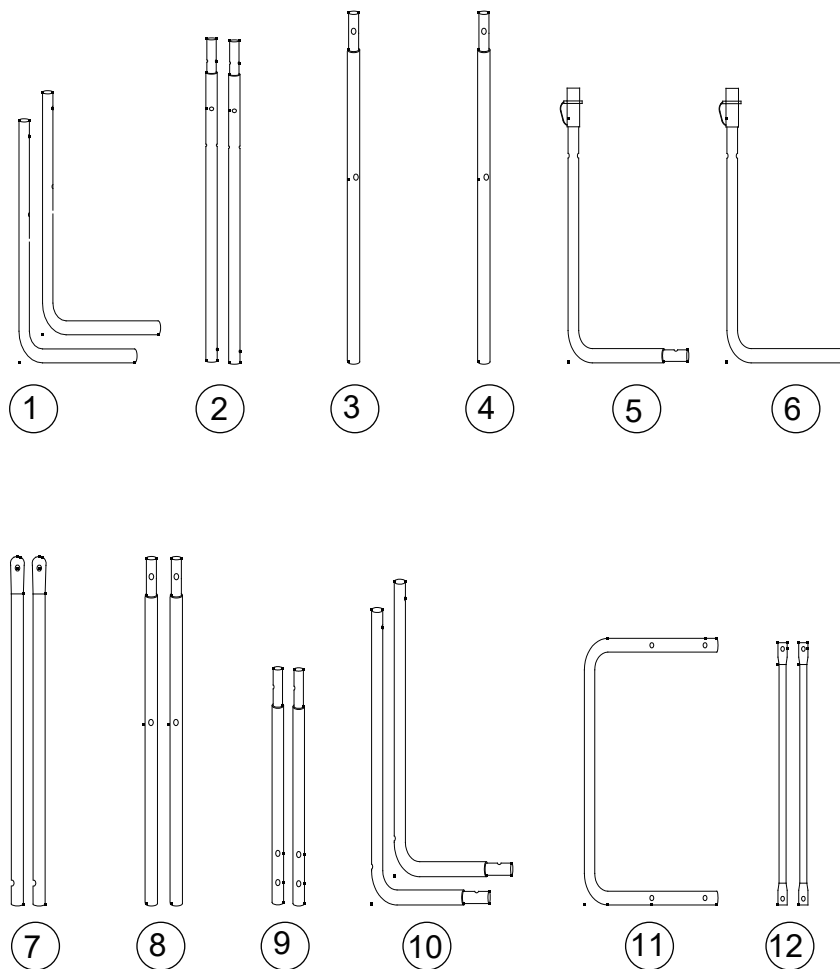

FIG.1 &2
3. Attach Tubes 2 (#2) to Tube 3 and Tube 4 (#3 & #4) using spring lock (pre-installed) as shown in FIG.1.